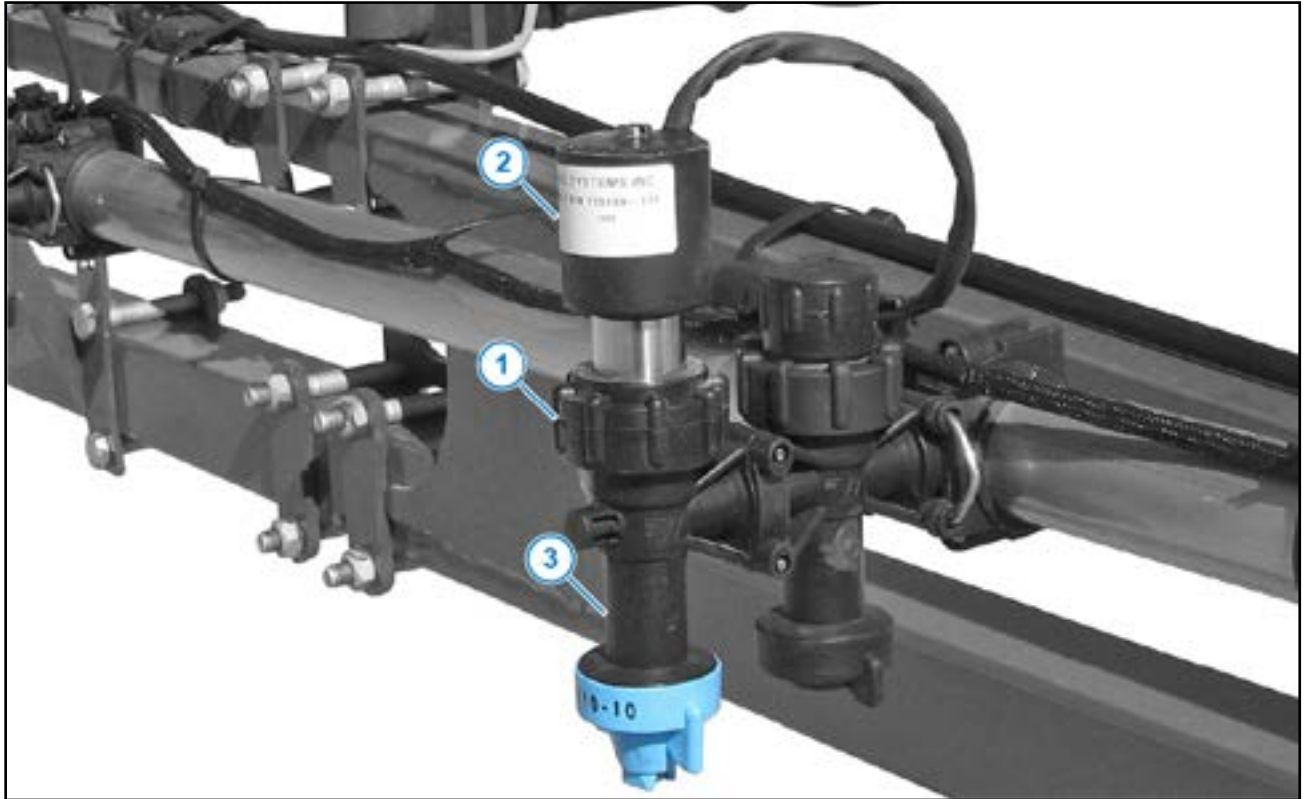

Figure 48: Nozzle Valve Disassembly
1. Unscrew the fly nut (Figure 48, Item 1) counter-clockwise to remove the nozzle valve assembly (Figure 48, Item 2) from the nozzle body (Figure 48, Item 3).